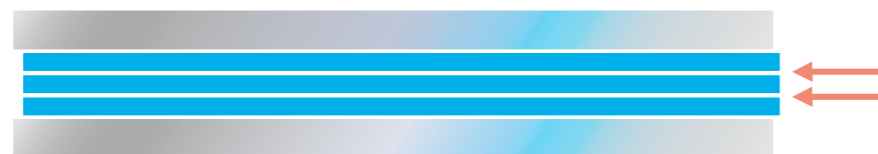

FIG 30 •
1. The internal SentryGlas® interlayer interfaces not getting enough heat to create a sufficient prepress bond resulting in pressurized air breaking the seal during autoclaving (see Figure 30).